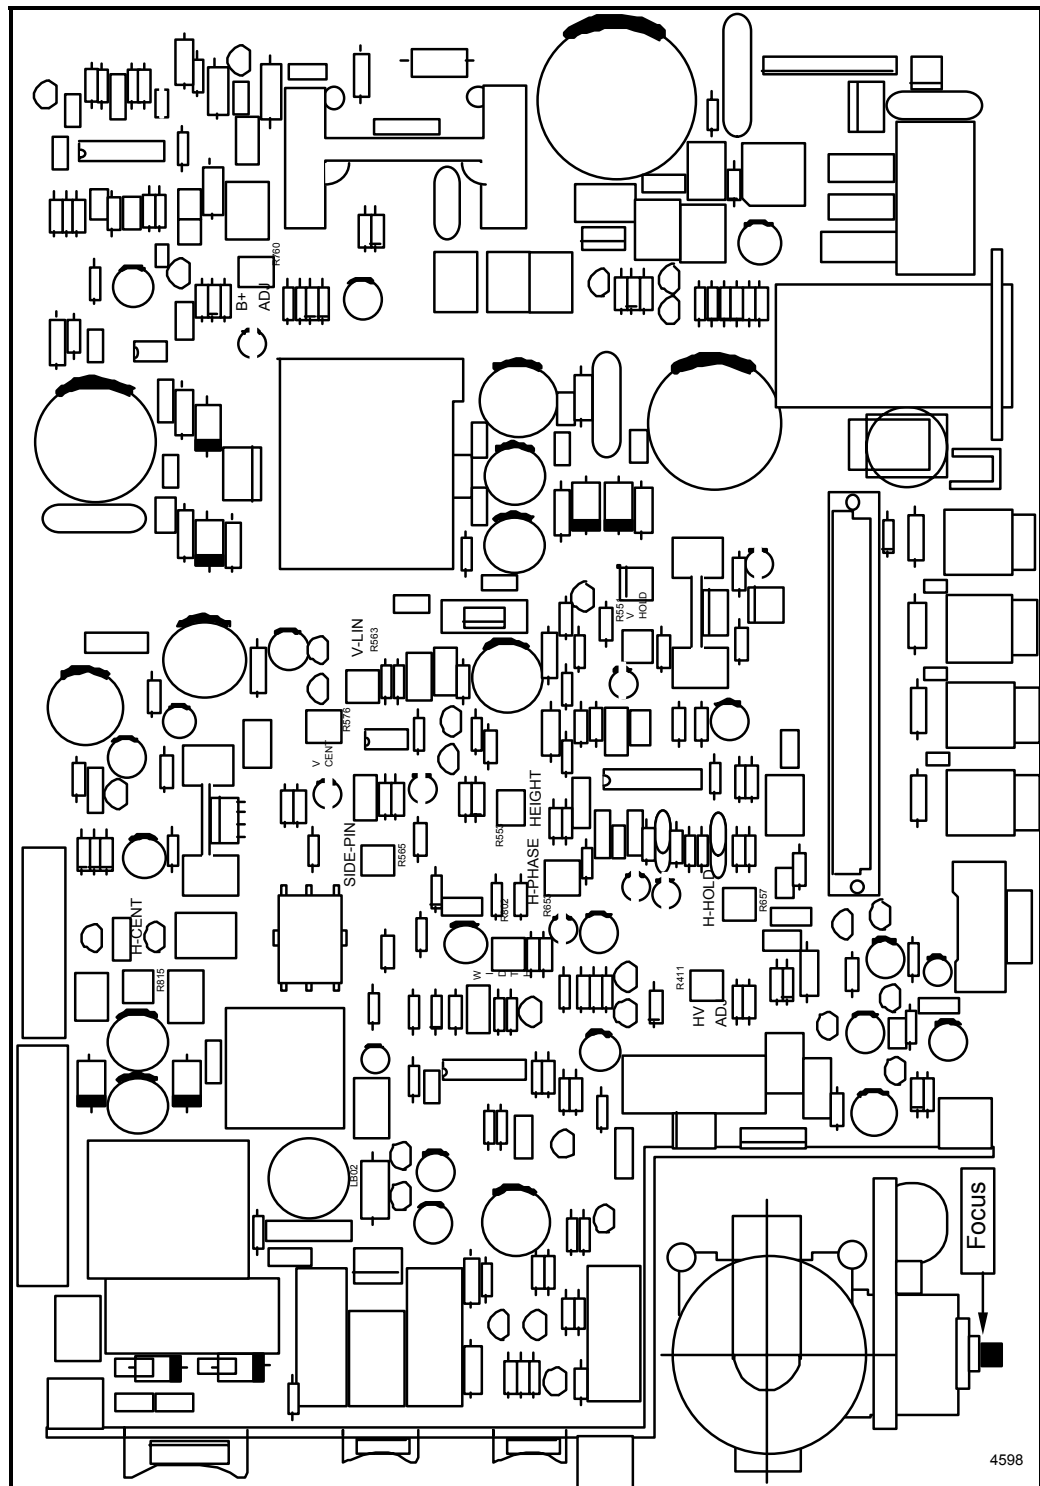

Figure 6-2 — Circuit Board FSM-002 Component Layout
The horizontal control (H-HOLD—R657) locks the picture into synchronization horizontally. This control will normally not require adjustment. If it should become misadjusted, the proper setting is as follows: Turn the pot fully counterclockwise, and then clockwise 1/8th of a turn. If the pot is turned clockwise too far, the X-ray protection circuits will shut down both the high voltage and the horizontal scan circuits. If this occurs, power must be removed and the proper adjustment made before the circuits will operate. See Figure 6-2 for the location of the H-HOLD adjustment pot (potentiometer).
The vertical hold control (V-HOLD—R551) locks the picture into synchronization vertically. To perform this adjustment, rotate the pot in one direction until vertical synchronization is lost. Then rotate the pot in the opposite direction until synchronization is restored. Continue rotating the pot in this direction until synchronization is lost again. The correct setting for the pot is the midpoint between the two positions where synchronization is lost. See Figure 6-2 for location of the V-HOLD adjustment pot.
The vertical height control (HEIGHT—R553) adjusts the height of the display vertically. Adjust the control CW (Clockwise) to make the display taller and CCW (Counter-clockwise) to shrink the size. Using this control, adjust the height of the display to measure 27 cm. from the top of the white outline to the bottom. It may become necessary to adjust the Vertical Centering (V-CENT) control before achieving the final height setting if the display is not centered. Move the control CW to position the display closer to the bottom and CCW for the opposite direction. See Figure 6-2 for the location of the HEIGHT adjustment pot. Note that you are adjusting the height of the display, not the height of the raster. Your measurement is the distance between the left and right borders of the crosshatch pattern.
The horizontal width control (WIDTH—R802) adjusts the width of the display (see Figure 6-2). Adjust the control CW (Clockwise) to make the display wider and CCW (Counter-Clockwise) for the opposite. Using this control, adjust the width of the display to measure 36 cm from the left side of the white outline to the right. It may become necessary to adjust the horizontal centering (H-CENT—R815) before achieving the final width setting if the display is not centered either on the background or within the bezel. Adjust the monitor Brightness control to the maximum so that the raster background is visible. If the side edges of the raster (background) are not visible, reduce the width of the display until they become visible. Using the Horizontal Centering control (H-CENT—R815), adjust the raster centering until the raster is centered. Then, using the Horizontal Phase control (H-PHASE—R653), adjust the position of the display within the raster until it is centered. Return the monitor Brightness control to the minimum setting and adjust the width to the final setting of 36 cm. Note that you are adjusting the width of the display, not the width of the raster. Your measurement is the distance between the left and right borders of the crosshatch pattern.
The controls for Linearity and Geometry are: Vertical Linearity (V-LIN—R563 and Side Pincushion (SIDE PIN—R565). Correction for horizontal linearity is made by adjusting the horizontal linearity coil. Top and bottom pincushion correction is built into the CRT yoke. See Figure 6-2 for location of control.
1. While the crosshatch display is shown, adjust the (V-LIN—R563) control for linearity of the display from top-to-bottom with reference to the center (see Figure 6-2). Move the control CW (Clockwise) to make the top lines of the crosshatch farther apart and the bottom lines closer together or CCW (Counter-Clockwise) to make the top lines closer together and the bottom lines further apart. The top lines should be the same distance apart as the bottom lines.
1. The (SIDE PIN—R565) control adjusts the straightness of the side of the display, correcting a distortion that occurs naturally with the CRT (see Figure 6-2). Adjust so that the sides of the display are as straight as possible. Other distortions that can occur in the display, such as trapezoidal or parallelogram shapes, are a function of the tube performance and cannot be corrected using the SIDE PIN control.
1. Horizontal Linearity (L802)—This control adjusts the linearity of the display side-to-side, with reference to the center. Rotating the thumbwheel on the side of the coil (taking care not to touch exposed terminals) changes the left side of the display, stretching or compressing the width of the blocks. Position the thumbwheel so that the width of the blocks on the left are equal to those on the right (see Figure 6-2).